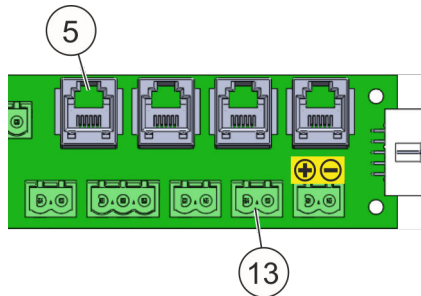
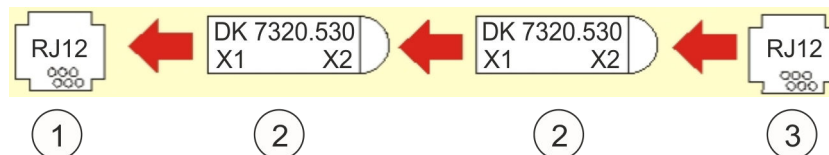

Fig. 47: Connections door contact switch
Fig. 48: Installation diagram for the door contact switch "RJ12 plug" (access sensor)
The door contact input "5" (Fig. 47 /5) is designed for switch type Rittal 7320.530 (Fig. 49 /2 or 3). Connect door contact switches of variant "RJ12 plug" to the door contact input "5". Make the connection as per Fig. 48 and Fig. 49 .
- 1 Door contact input "5" (Fig. 47 /5)
The pre-mounted terminating resistor (Fig. 47 /13) must be removed when using the switch "Rittal 7320.530".